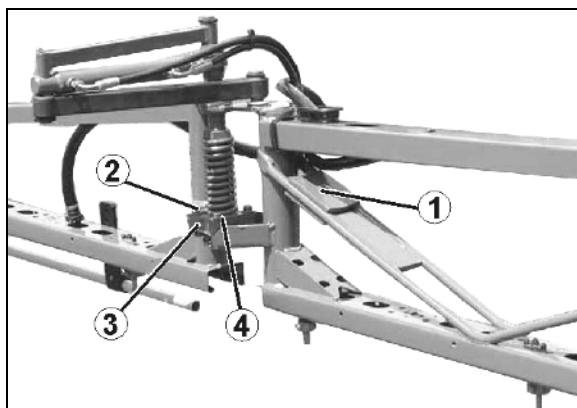

Fig. 169
If this is not the case, with the swing compensation **unlocked** align the folded-out sprayer boom by means of counterweights (Fig. 169/1). Secure the counterweights to the boom extension accordingly.
1. Release the screws (Fig. 169/2) of the securing link (Fig. 169/3). The boom is aligned directly at the plastic catch (Fig. 169/4) through the slotted holes of the securing link.
3. Tighten the screws (Fig. 169/2).